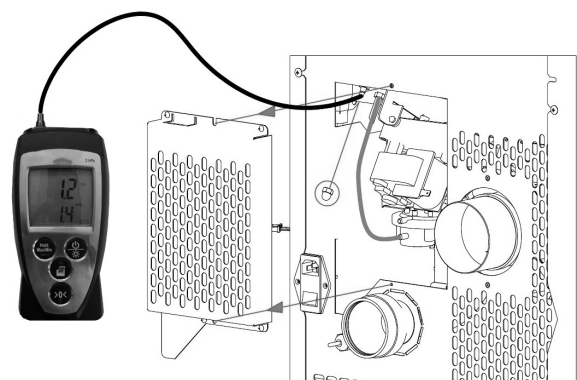

Fig. 34 - Digital pressure switch connection
- Connect a digital pressure switch with a tube to detect the depression (see **Fig. 34**).